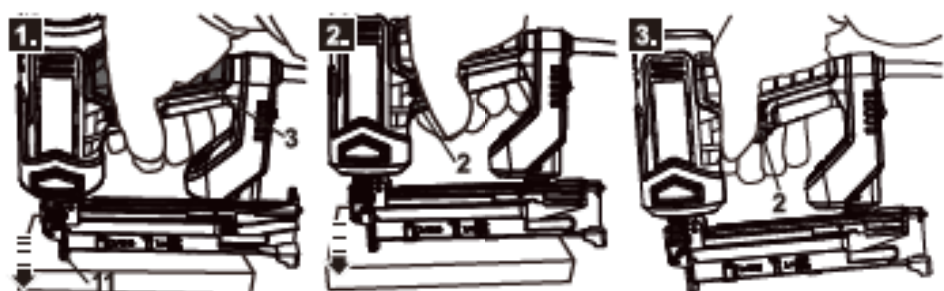

Fig. 8
2. Insert a required nail strip / staple strip (14 / 16) in the magazine (8).
3. Turn the impact force control (6) to a suitable setting.
5. Hold the product firmly on the handle grip (3) with one hand. Always keep your hand away from the nailer head (10).
6. Press the safety yoke (11) onto the material/workpiece that you want to nail/staple (Fig. 8, step 1).
7. Maintain the contact pressure and briefly press the trigger (2) (Fig. 8, step 2).
8. Once the nail/staple from the nailer head (10) has been completely driven in, release the trigger (2) and lift the safety yoke (11) from the workpiece (Fig. 8, step 3). Never fire again at the same spot.